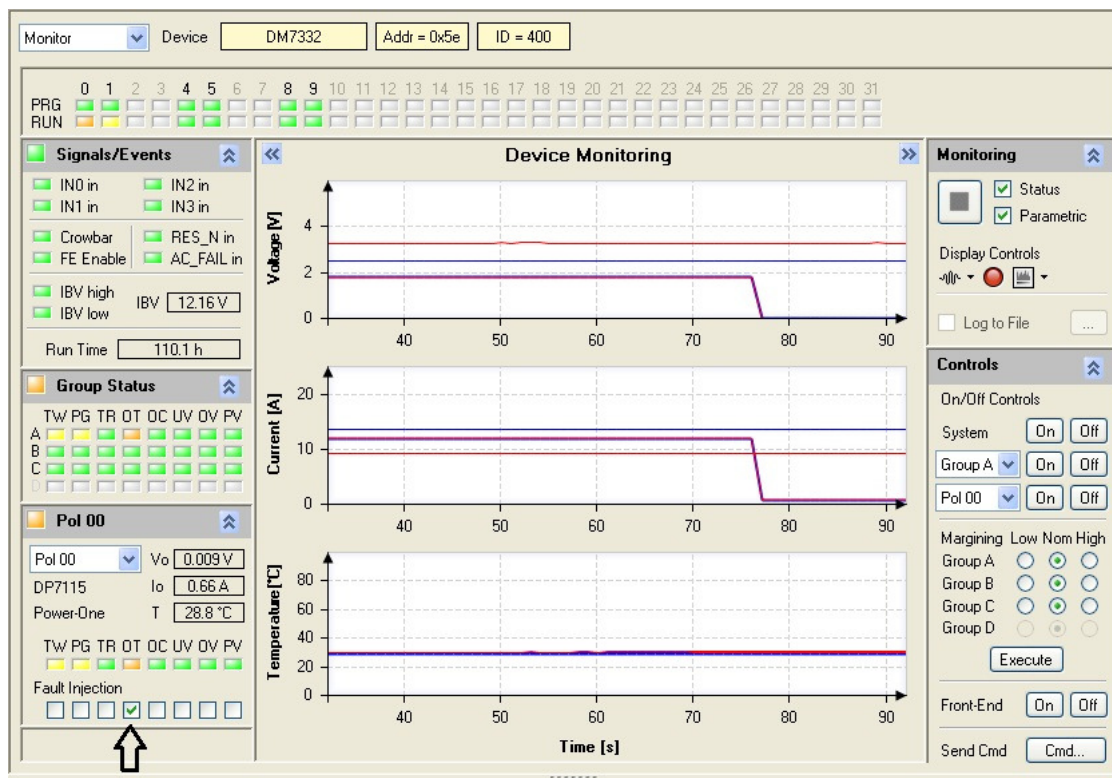

Figure 57. Example Overtemp Fault Injection in the GUI
In Figure 57 we see the effects of injecting an Overtemp (OT) fault. Note that dPOL-0 shows an OT fault. dPOL-0 and -1 are in the same Group and fault propagation for the dPOL is to propagate to the group. dPOL -4 and above are in Groups B and C. Propagation is not enabled from Group A to B.